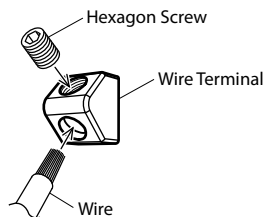

Fig. 8
- Tighten the set screw with the hexagon wrench (included) to secure the lead. (Fig. 8)